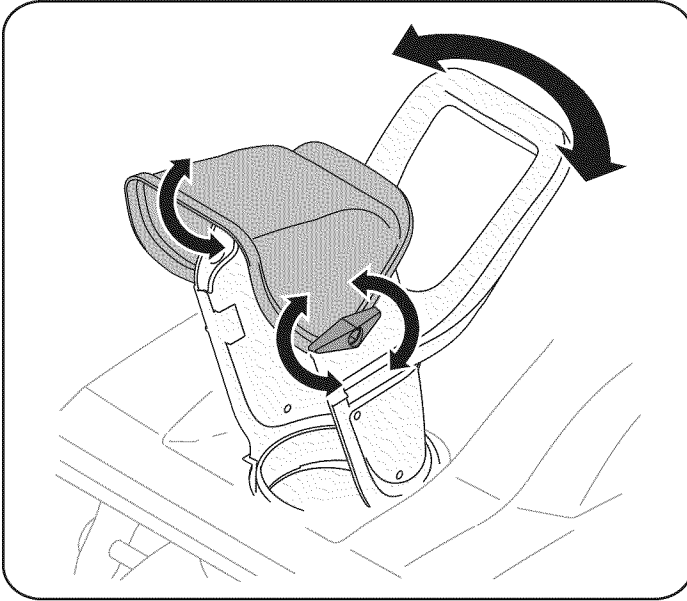

Figure 6
1. Loosen the wing knob found on the left side of the chute assembly and pivot the upper chute upward or downward to the desired pitch. Retighten the wing knob before operating the snow thrower. See Figure 6.
2. Position the chute assembly opening by using the chute handle to throw the snow in the desired direction. See Figure 6.